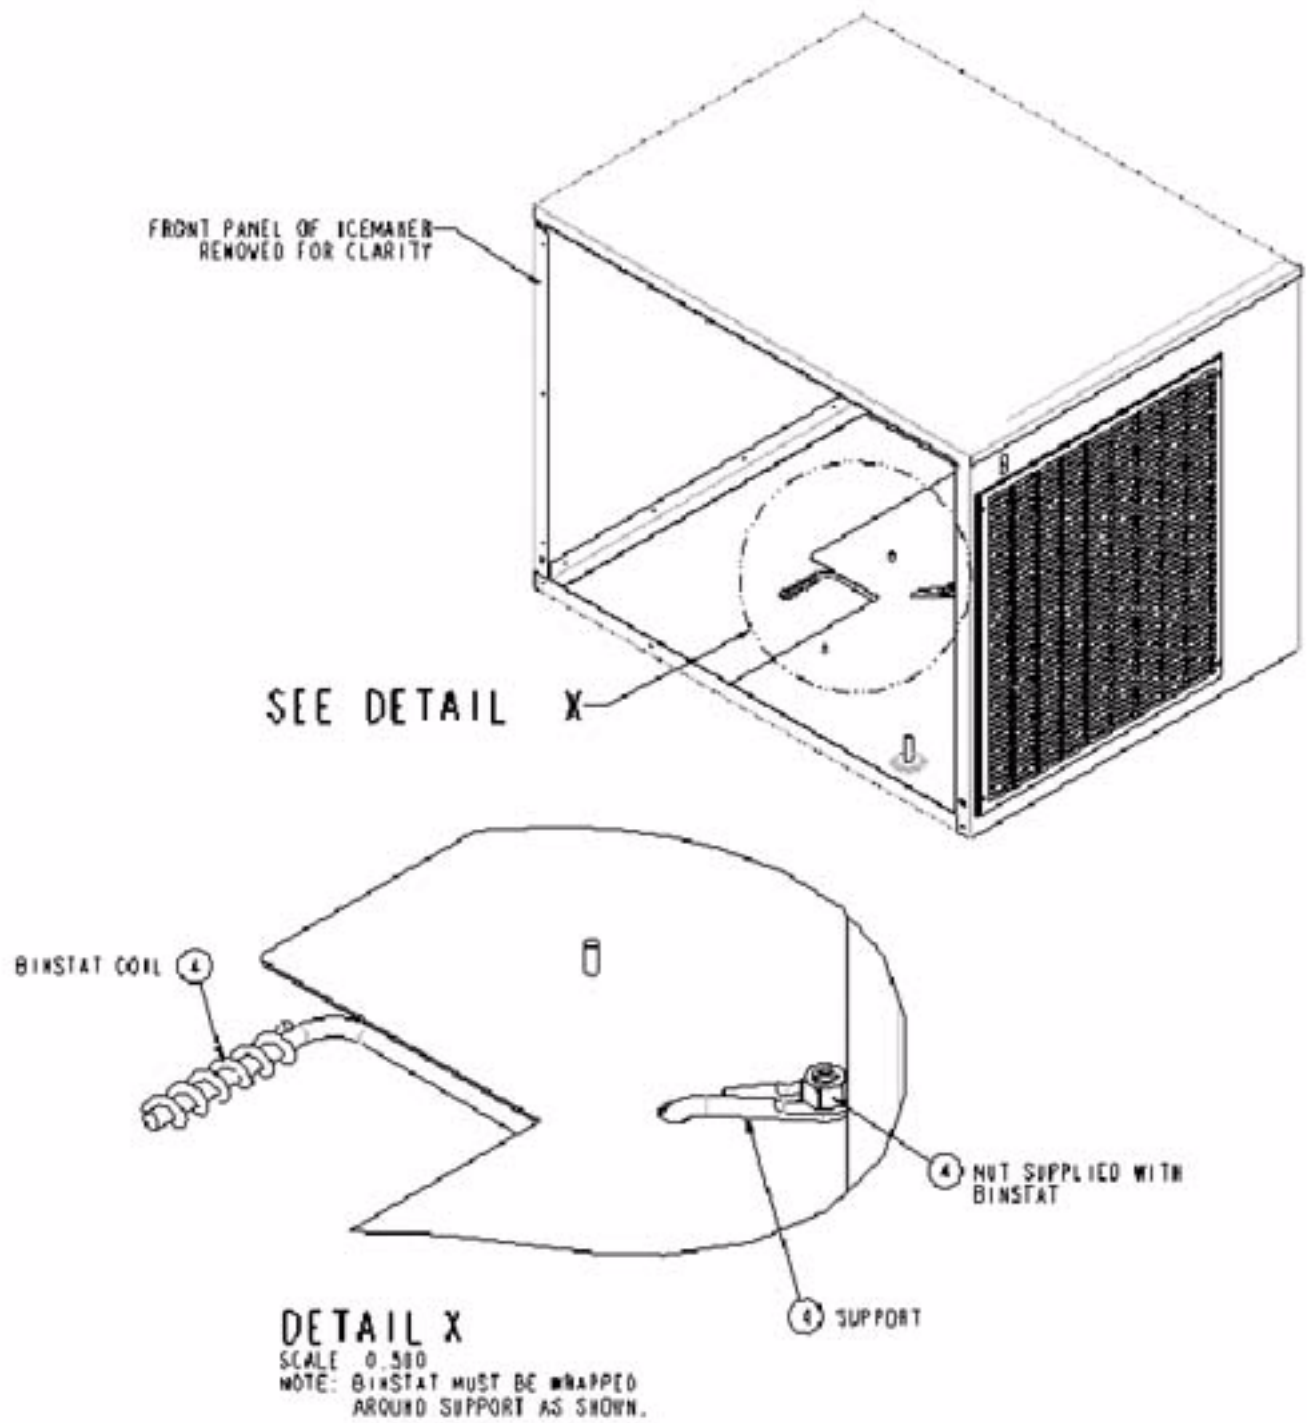

FIGURE 3. BINSTAT LOCATION
7. Install the brackets (item 5) on either the rear corners or on the back of the ice maker, using the brackets as a template. Use care not to drill into any ice maker components (condenser, tubing, etc.) or into the ice hopper. Be sure to overlap the lid assembly with the brackets, installing screws in both the lid assembly and ice maker.
8. Install the wireform bracket supplied with the bin-stat kit (item 4) through the 5/8" diameter hole in the bottom of the ice maker, wrapping the eye of the wireform over the stud near the hole in the ice maker and secure with the 8-32 nut provided (Figure 3). Feed the bin-stat cap tube through the hole to the end of the wireform bracket and wrap the tube around the end of the bracket several times , insuring that the tube is secure.
9. Apply the label (item 8) on the front of the cover.